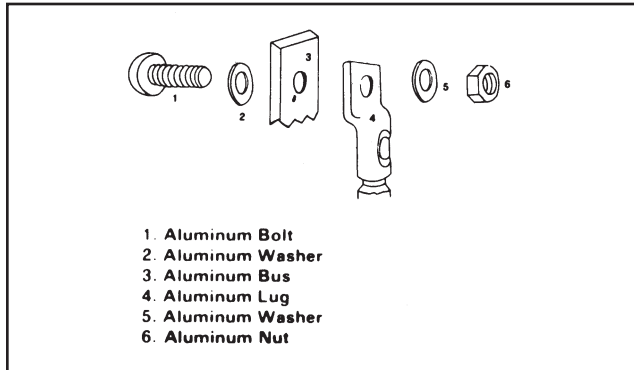

Figure 12
b) Hardware should be assembled as shown in Figure 12.